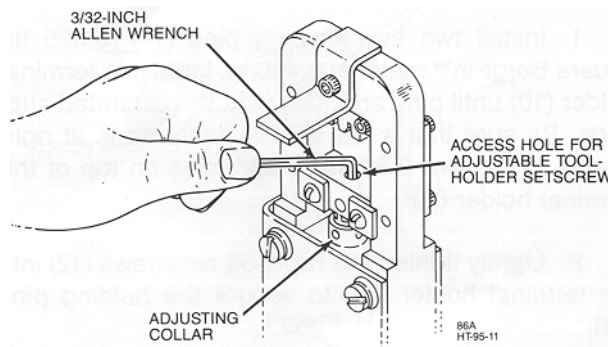

Figure 13
2. Insert the 3/32-inch Allen wrench (supplied with hand tool) through the access hole in the adjustable tool holder and into the socket-head setscrew (see Figure 13). Turn the setscrew 1/4-turn counterclockwise to unlock the adjusting collar.